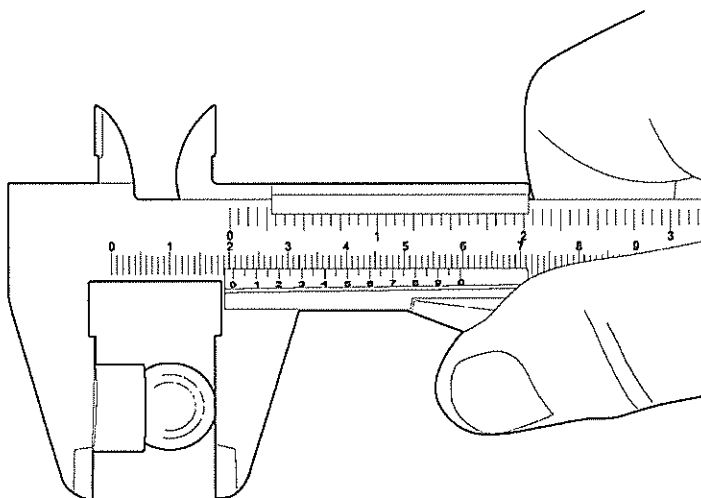

Fig 15 Measuring lower swivel pin, ball and cup
14.3 Insert swivel pin into swivel pin housing and tighten using two bolts across diagonals. Check for free play by moving to and fro. There must be negligible free play but swivel should be easy to move. If not lift up portal hub with a jack and measure existing play between swivel head and thrust washer with feeler gauge. Remove pivot and measure thickness of ball cup with inserted ball (see Fig 15 and 16).